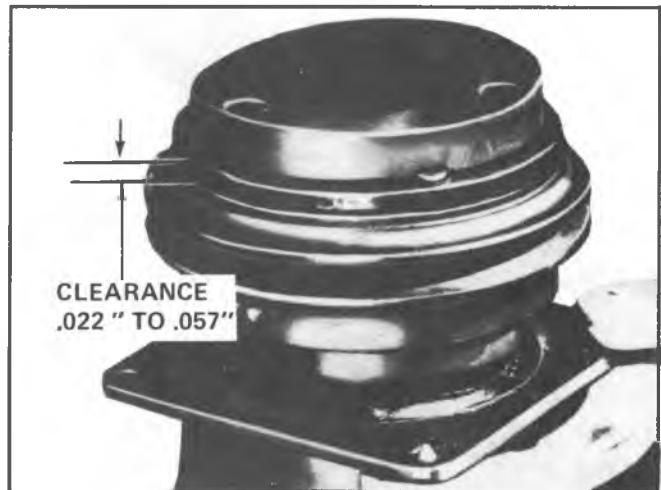

Fig. 9--Checking Air Gap
6. Use Thin-Wall Socket J-9399 and Clutch Hub Holder J-25030 or J-9403 to install a new shaft locknut **with shoulder or circular projection on the locknut facing towards retainer ring**. Tighten the nut to 14-26 lb. ft. torque. Air gap between the frictional faces should now be .022" to .057" (Fig. 9). If not, check for